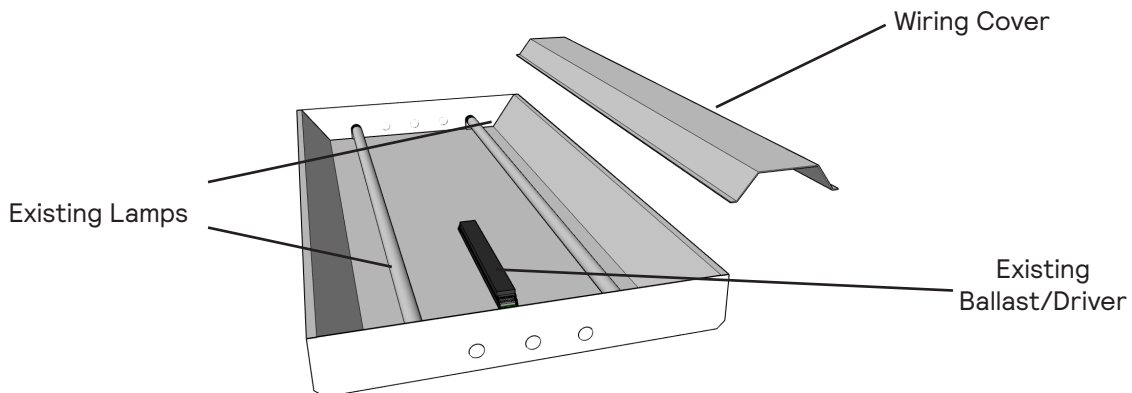

Figure 1. Luminaire and components, pre-modification
- A. **Figure 1** illustrates the parts of a luminaire. Luminaires may differ from the one illustrated here. Verify all parts and connections before beginning installation.